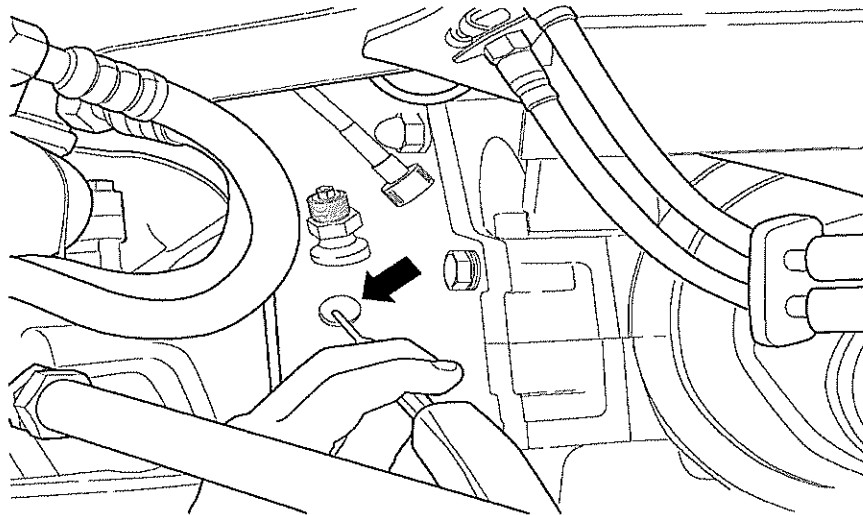

Fig 20 Disconnecting speedo cable
18.1 Loosen crown nut at front left of front axle and disconnect speedometer cable (see Fig 20).